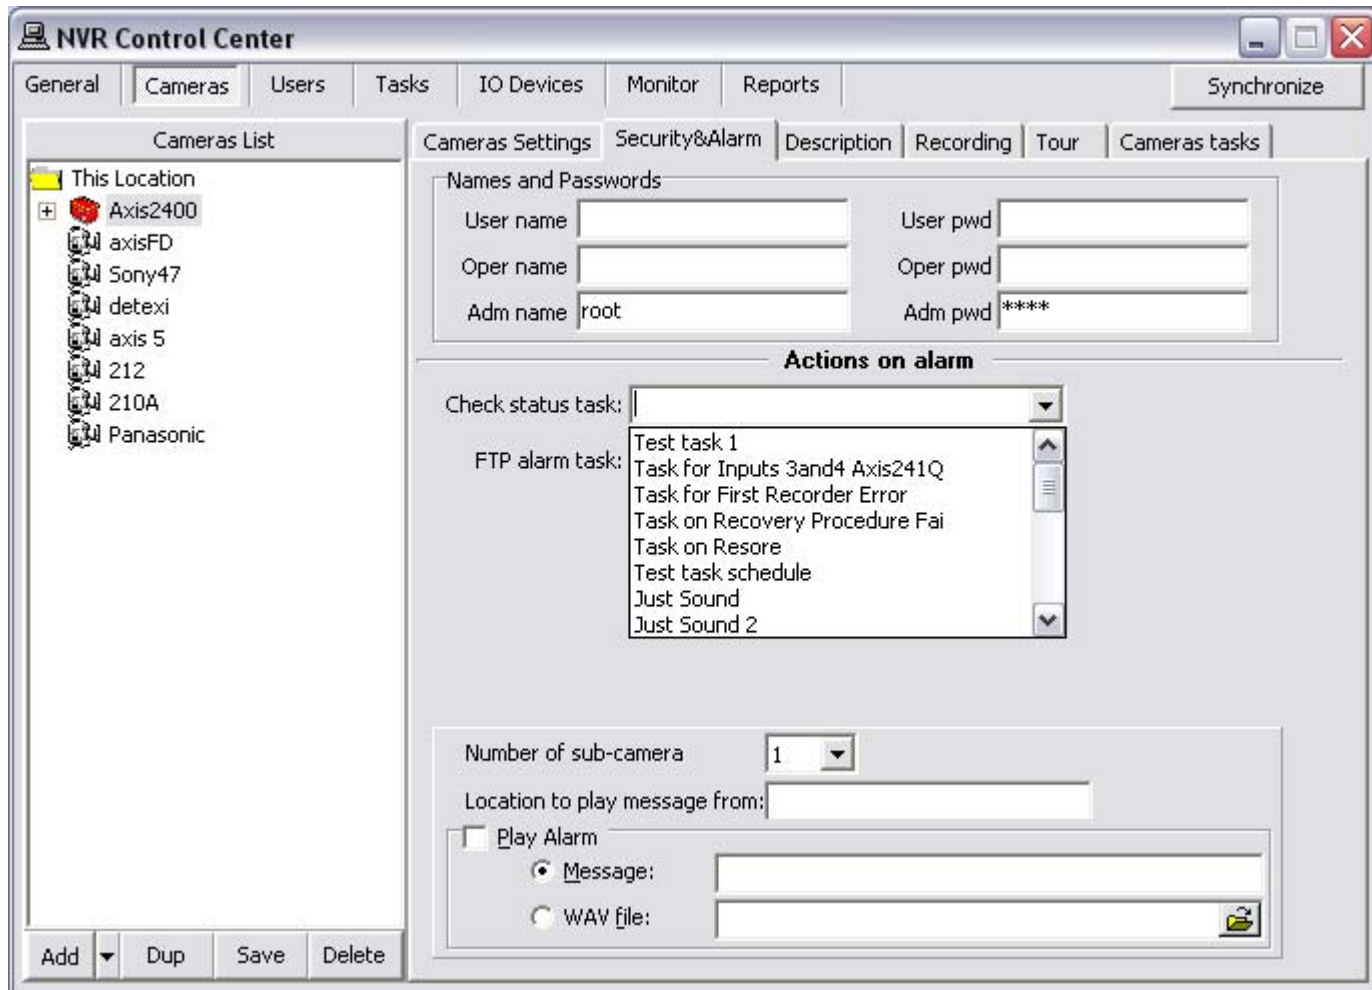

Fig 104. NVR Control Center — Cameras — Security & Alarm
2. Go to the **Cameras — Security & Alarm** (Fig 104).